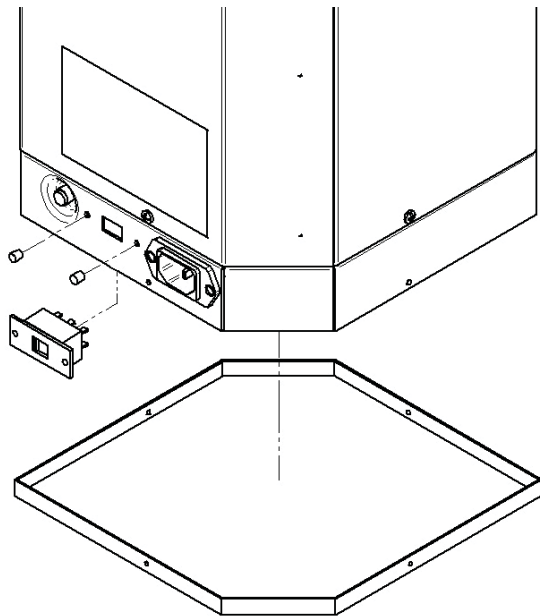

FIGURE 10
1. Remove lower base cover. On Type 2 ovens, the cover is a snap fit. On Types 5 & 15, remove all screws. Refer to Figures 10 & 11 below.